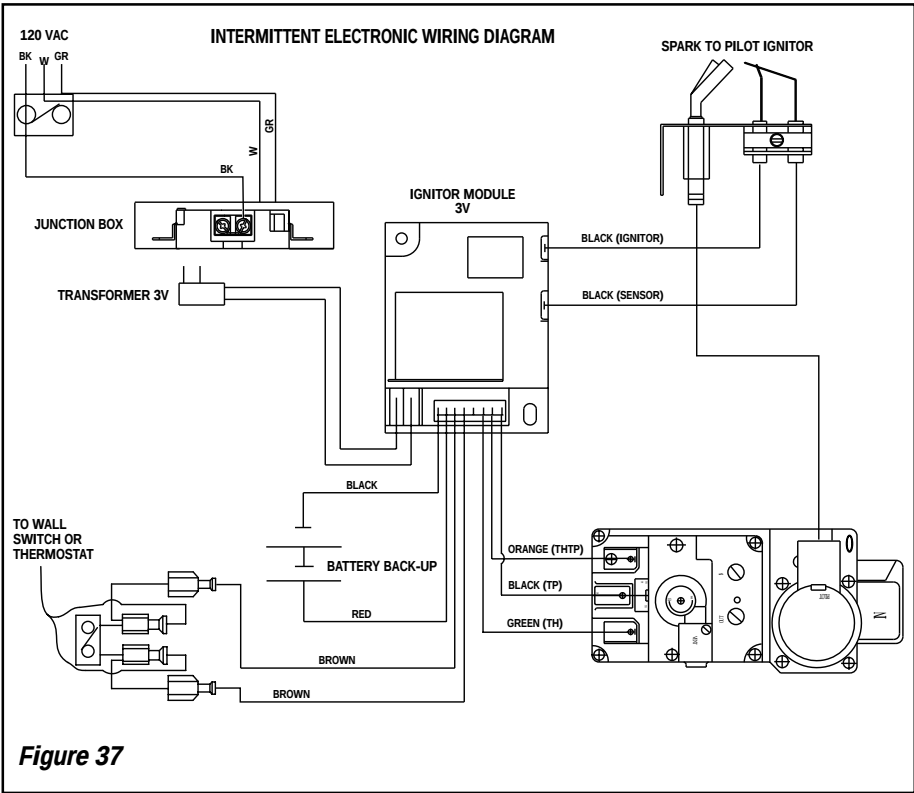

Figure 37
B. Electronic Wiring (See *Figure 37*) –
4. Connect the black power supply wire to the **lower outlet's** red pigtail lead and the white power supply wire to the **common** terminal of the outlet as shown in **Figure 37.**
- 8.** If an optional control is to be used, wire it in the low voltage circuit as shown in **Figure 37**.
IMPORTANT: Ground supply lead must be connected to the wire attached to the green ground screw located on the outlet box. See *Figure 37*. Failure to do so will result in a potential safety hazard. The appliance must be electrically grounded in accordance with local codes or, in the absence of local codes, the National Electrical Code, ANSI/NFPA 70- (latest edition). (In Canada, the current CSA C22-1 Canadian Electrical Code.)